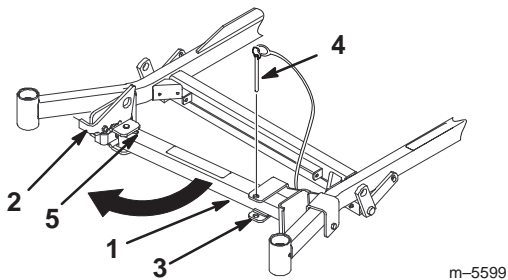

Figure 29
2. Remove bracket pin (Fig. 29).
3. Raise latch. Swing stand foot out front and slide stand toward machine, into the bottom of slot (Fig. 29 and 30).
4. Return stand to its rest position (Fig. 29).